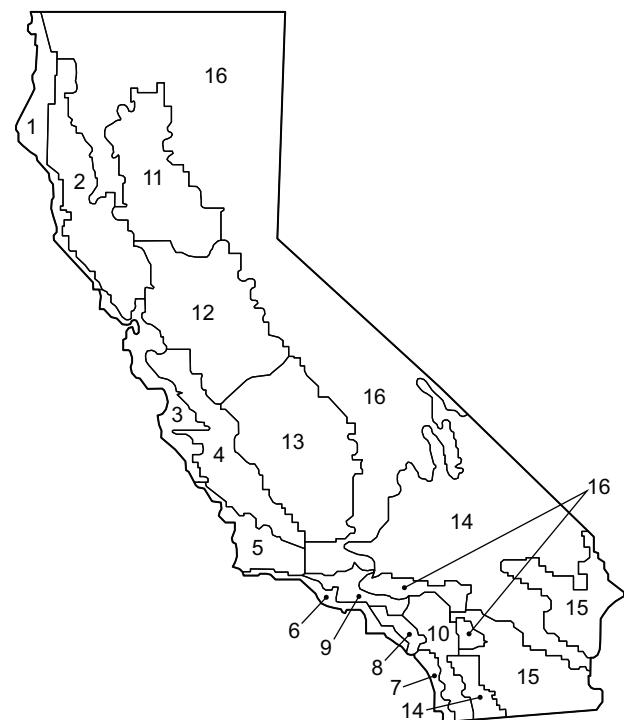

Fig. 93 — California Title 24 Zones
- See Fig. 93 for map of California Title 24 zones.